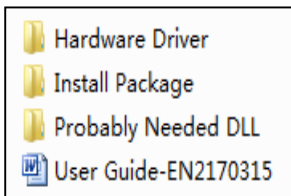
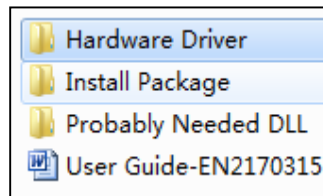
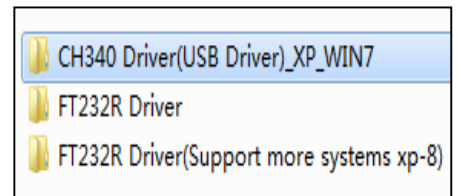

Figure 10
Figure 11
Figure 12
1) Insert the CD into the CD drive and find the installation file (For example with "Portable storage software -- English"). Click on the page shown in Figure 10, click on the "Hardware Driver" option (Figure 11), and click on "CH340 Driver (USB Driver)_XP_WIN7" option (Figure 12).